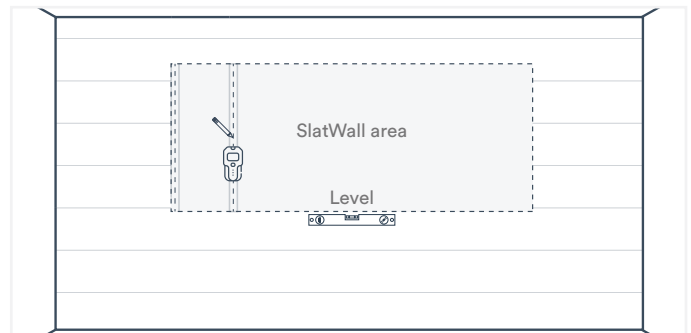

Fig. 11
2. Install your Trusscore Wall&CeilingBoard panels, leaving an opening for your SlatWall installation as determined by the spacing guidance provided in Step 1 (Fig. 11).